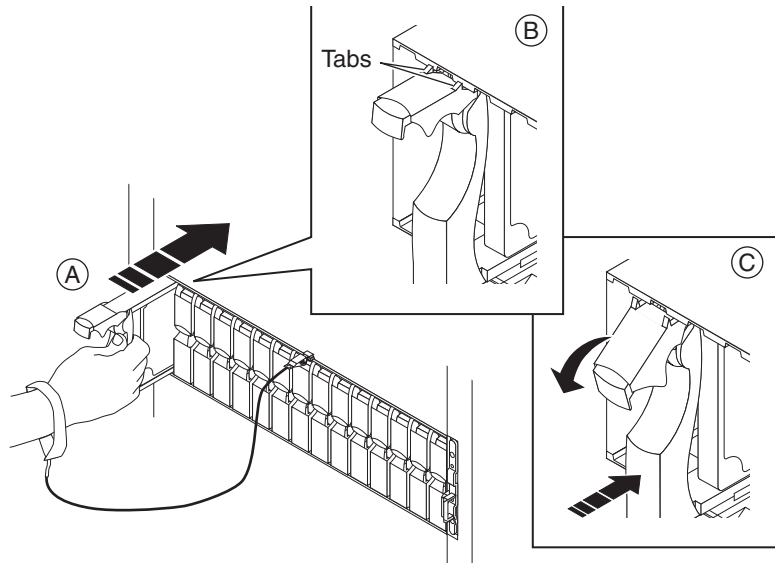

Figure 3-8 Installing a Disk or Filler Module
3. Refer to Figure 3-8 as you insert the new disk module.